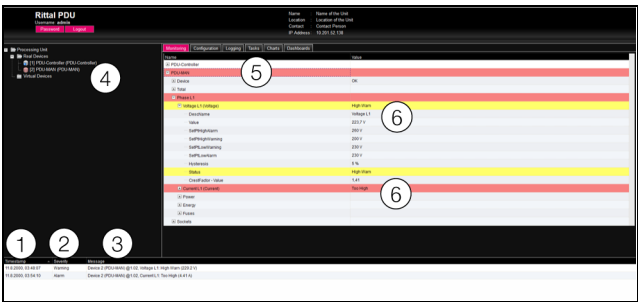

Fig. 42: Layout of message display
1. Timestamp: The date and time when the error occurred (fig. 42, item 1).
2. Severity: Severity of the error. A distinction is made between Warnings and Alarms (fig. 42, item 2).
3. Message: Error message in plain language (fig. 42, item 3).
- Left-hand section (navigation area): In the navigation area, the symbol preceding the component where the error occurred appears red in the event of an alarm message and yellow in the event of a warning message (fig. 42, item 4).
- Right-hand section (configuration area): On the **Monitoring** index tab, the entire component and the specific parameter to which the warning or alarm applies appears red or yellow (fig. 42, items 5 and 6).